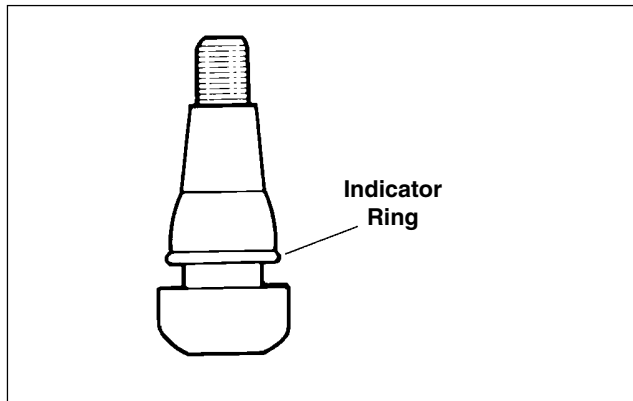

Figure 2-32. Snap-in Tubeless Tire Valves
- a. See Figure 2-32. Moisten the valve with water and insert valve stem through rim hole.